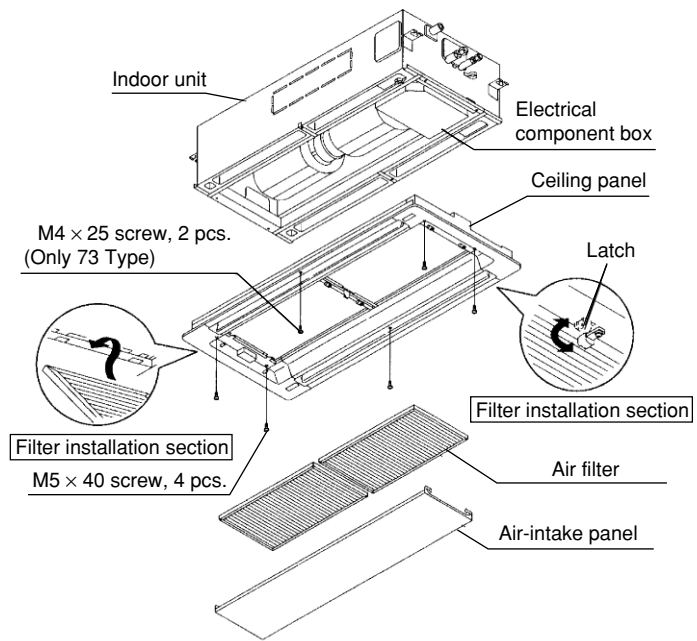

Fig. 9-7
- (2) Remove the air-intake panel and the air filter from the ceiling panel as shown in Figs. 9-7 and 9-8.
- (6) Install the air filter and air-intake grille by performing the steps in Figs. 9-7 and 9-8 in reverse.